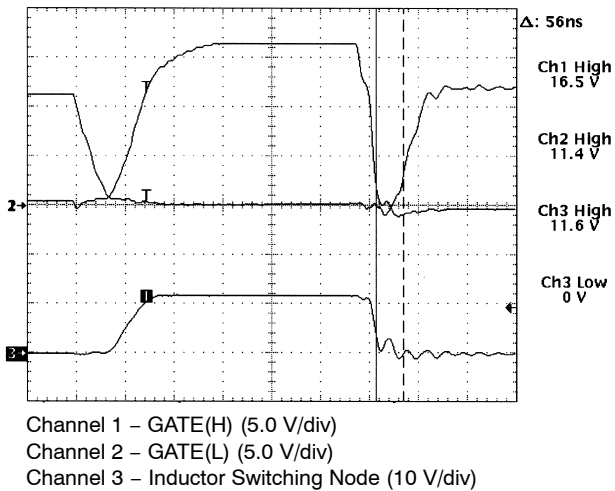

Figure 13. Adaptive FET Non-Overlap (100 ns/div)
The CS51312 includes circuitry to prevent the simultaneous conduction of both the high and low side NFETs. This is necessary to prevent efficiency reducing “shoot-through” current from flowing from the input voltage to ground through the two NFETs. Prior to either GATE(H) or GATE(L) driving high, the other GATE must reach its low state. Since GATE rise and fall times vary with loading, this results in a variable delay from the start of turn-off until the start of turn-on (see Figure 13).